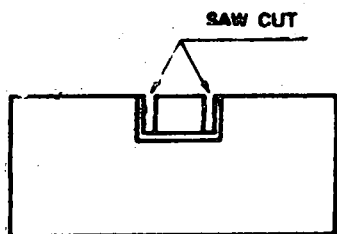

Fig. 5
4. To make chiselling easier, and more accurate, it is advisable to make a saw cut parallel to the tracing (Fig. 5).